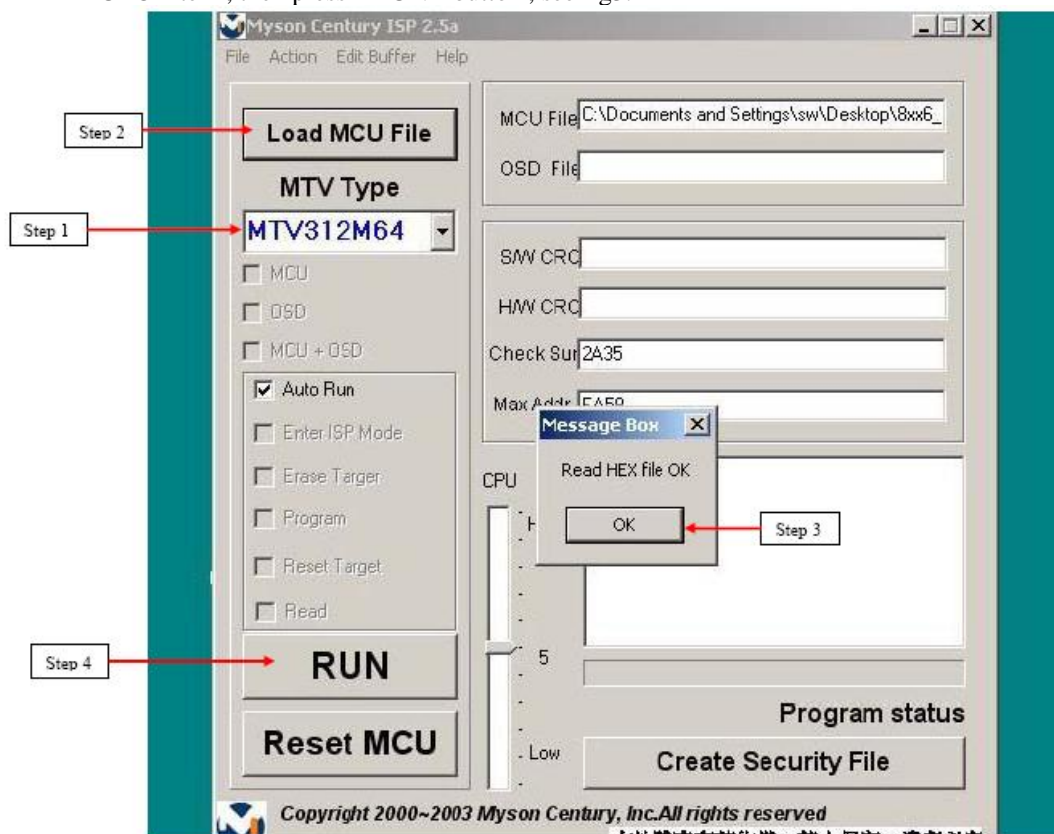

Fig. 3.1
- 3.1 Select MTV type first , load the binary or intel hex file that you want to program into the MCU , and select “ AUTO” item , then press “ RUN “ button , see fig3.1